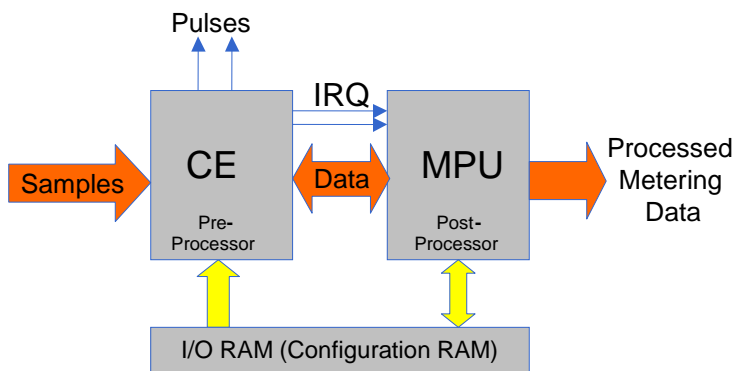

Figure 28: MPU/CE Data Flow
The data flow between the Compute Engine (CE) and the MPU is shown in Figure 28. In a typical application, the 32-bit CE sequentially processes the samples from the voltage inputs on pins IA, VA, IB, and VB, performing calculations to measure active power (Wh), reactive power (VARh), A²h, and V²h for four-quadrant metering. These measurements are then accessed by the MPU, processed further and output using the peripheral devices available to the MPU. Figure 28 illustrates the CE/MPU data flow.